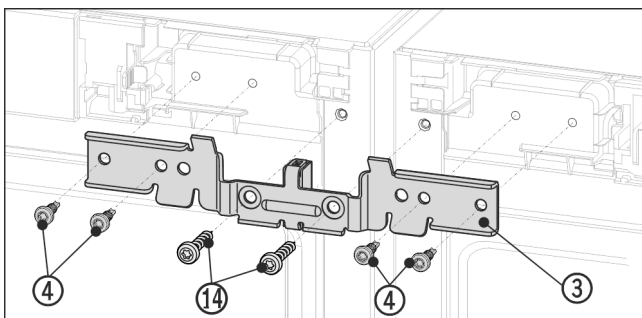

Fig. 14 Example illustration
- ▶ Slide the bracket Fig. 14 (3) onto the pins with the spacer between the appliances. Loosely screw in the brackets alternately right and left with four screws Fig. 14 (4) and the previously removed earthing screws Fig. 14 (14).